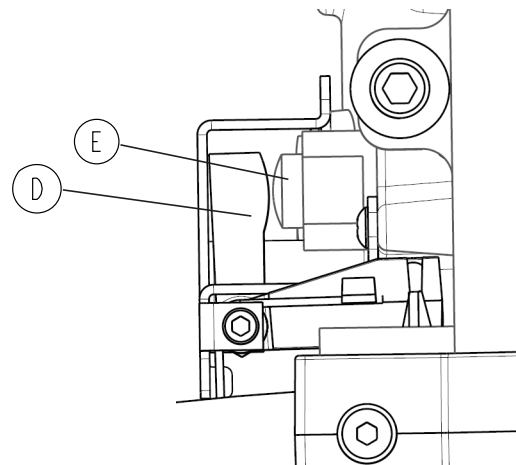

Figure 21 – Visible gap
14. Make sure that there is a visible gap between the manual release finger (D) and the manual release valve (E) (Figure 21).